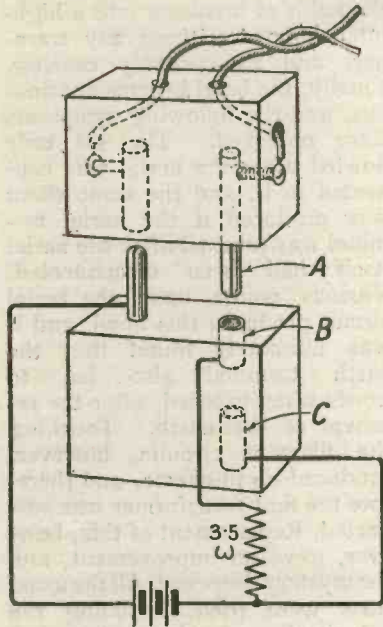

Fig. 1.—The connections.
For these reasons it is desirable to use a plug which does things gradually, so to speak. In the wiring diagram shown in Fig. 1 is seen a simple method of accomplishing this desired end. It will be seen that as the upper portion of the connection is pushed home its plug (A) first makes contact with the socket (B) which is connected to the negative terminal of the low-tension battery through a fixed resistance with a value of 3.5 ohms. As the process of insertion continues the plug passes through B and makes contact with the second socket (C), which is connected directly to the negative terminal of the battery. Hence both the switching on and switching off processes are gentle